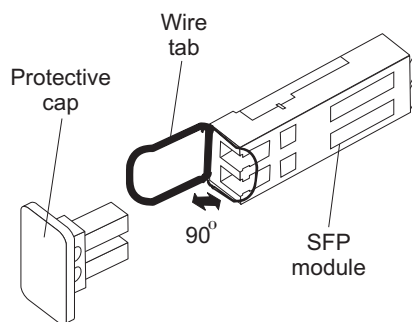

Figure 22. SFP module and protective cap
2. Remove the protective cap from the SFP module, as shown in Figure 22. Save the protective cap for future use.
2. If necessary, remove the protective cap from the SFP module, as shown in Figure 22 on page 44. Save the protective cap for future use.